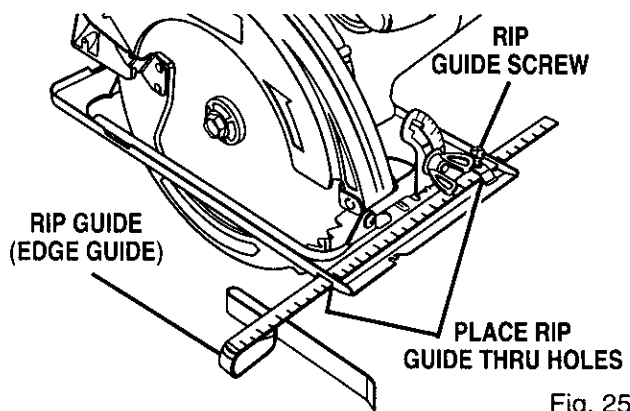

Fig. 25
C-clamps, firmly clamp a straight edge to the workpiece and guide the saw along the straight edge to achieve a straight rip cut. Do not bind the blade in the cut. If using the optional rip guide, see the following instructions and Figure 25.
■ Place rip guide through holes in saw base as shown in Figure 25.